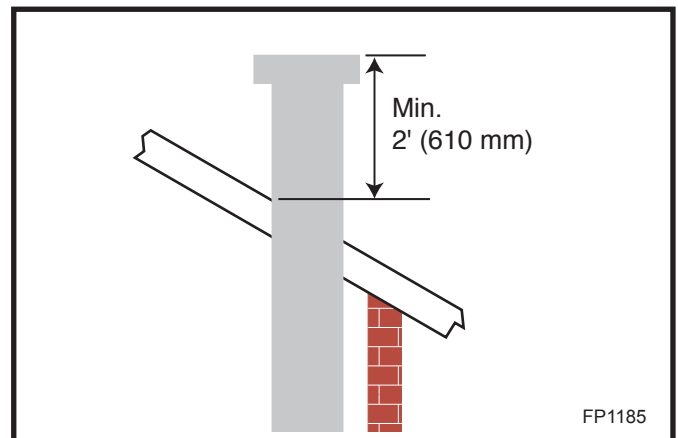

Fig. 41 Minimum termination to roof clearance.
10. Add additional vent lengths for proper height. (Fig. 41)